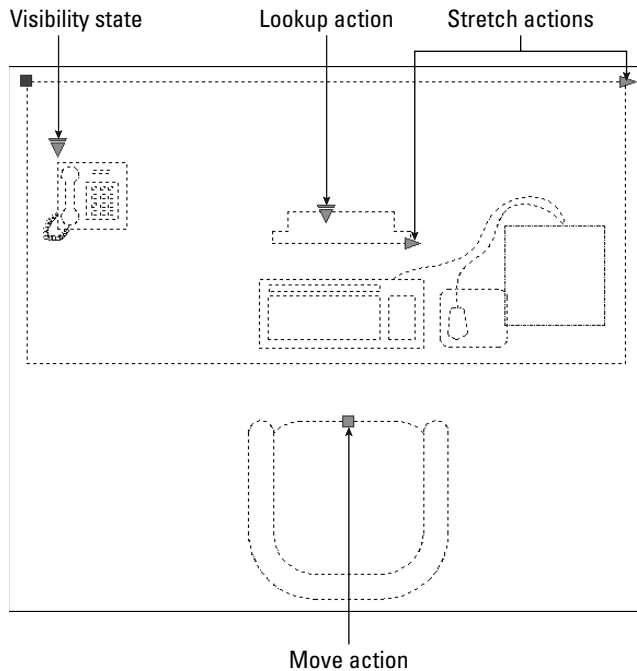

**Figure 18-27:** When you select a dynamic block, you see grips for its dynamic features.
26. Select the DeskSet block. It should look like Figure 18-27.